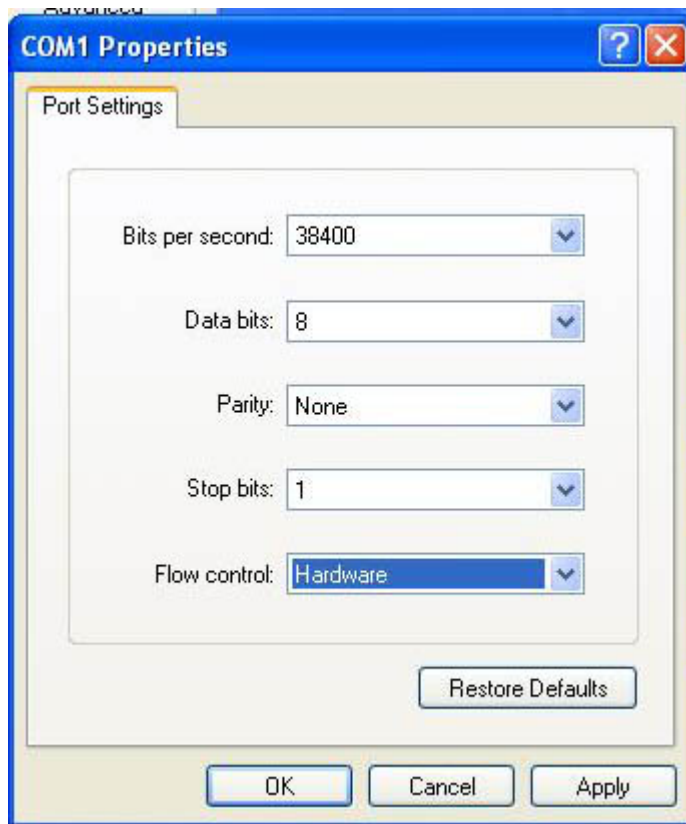

Figure 6
**Step 5:** Click CONFIGURE PORT and set relevant parameters. Shown as Figure 6:
**In Figure 6, shall be Bits per second value shall be correspond with BV option.** For example, in figure 6 Bits per second value is 38400, then BV value on the cutter shall also 38400. **If they are not the same, the file will be sent but the cutter will be no response.** Otherwise, FLOW CONTROL shall choose XON /XOFF but NOT Hardware on Figure 6. Other settings shall be the same as Figure 6.